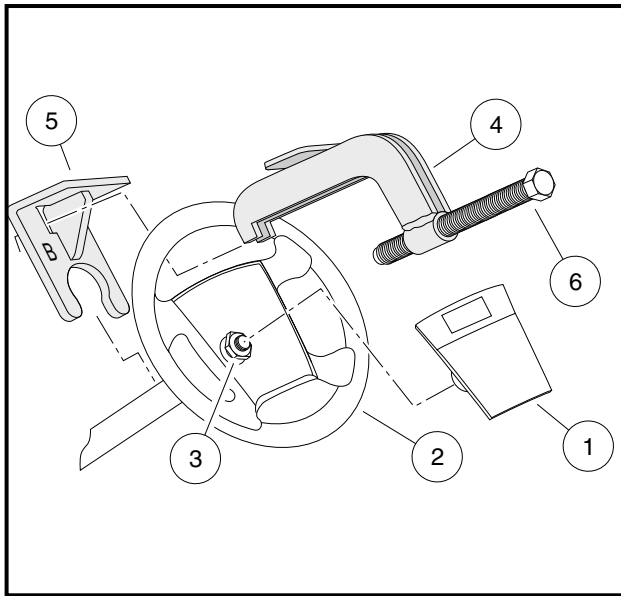

Figure 7-2 Steering Wheel Puller
- 8.1. Place the puller anvil (4) through the top opening of the steering wheel (**Figure 7-2, Page 7-4**).
- 8.2. Insert the anvil feet through the two slots in the base plate (marked "B") (5) as shown (**Figure 7-2, Page 7-4**).